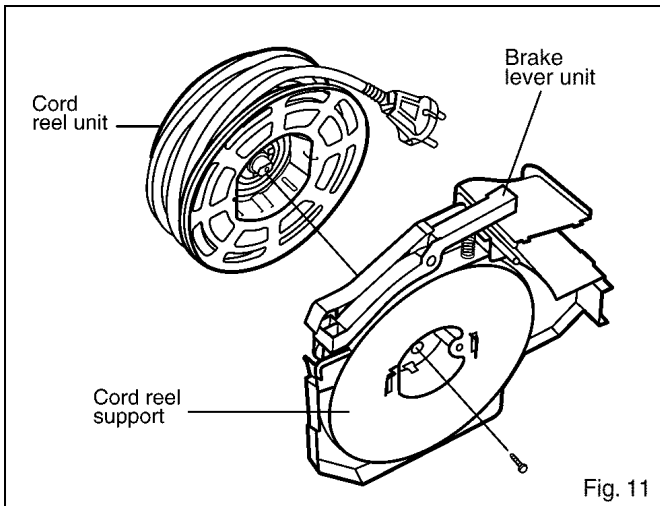

Fig. 11
3. Detach cord reel unit and cord reel support by removing the screw. (Fig.11)